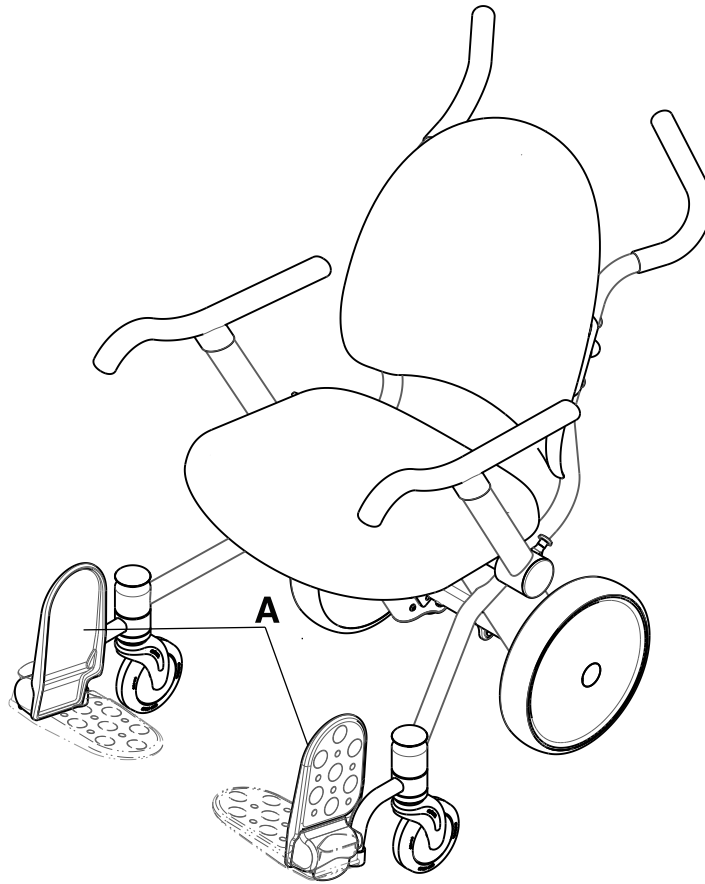

Figure 7: Flip-up footrests stowed position
2. Make sure that the flip-up footrests raise to the stowed position (A) (Figure 7 on page 15).